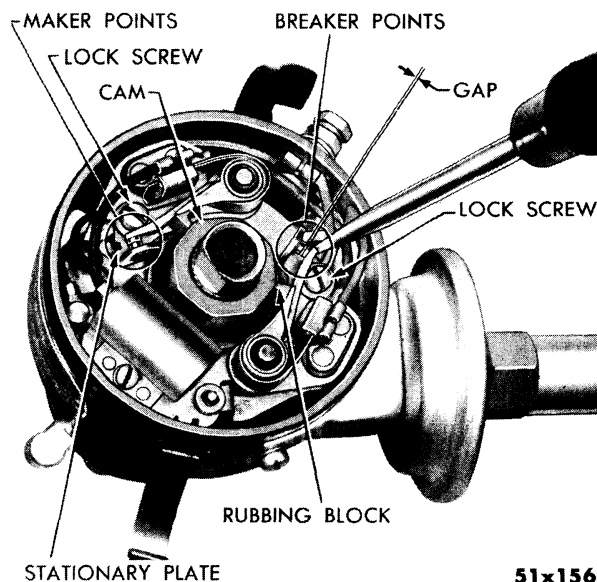

Fig. 34—Adjusting Distributor Breaker Point Gap
**Feeler gauge or dial indicator method**—Rotate the distributor shaft until rubbing block of one set of points is on high spot of cam (Fig. 34). With screwdriver blade inserted in the triangular opening, close or open points to a clearance of .015 to .018 inch by turning screwdriver blade against stationary point plate. Check clearance with a clean feeler gauge or dial indicator.